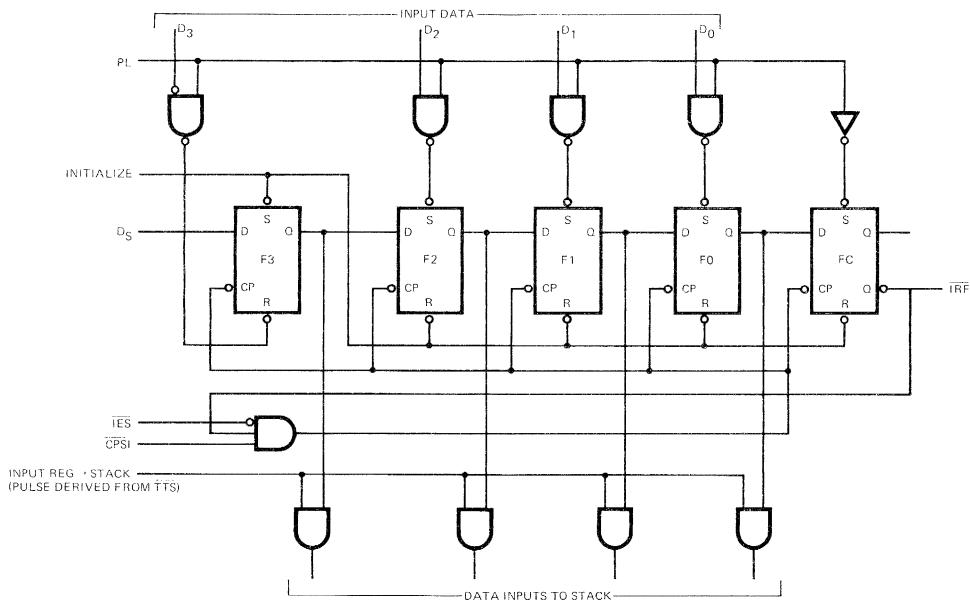

Fig. 1
Figure 1 is a conceptual logic diagram of the input section. As described later, this 5-bit register is initialized by setting the F3 Flip-Flop and resetting the other flip-flops. The \bar{Q} Output of the last Flip-Flop (FC) is brought out as the "Input Register Full" output (\bar{IRF}). After initialization this output is HIGH.